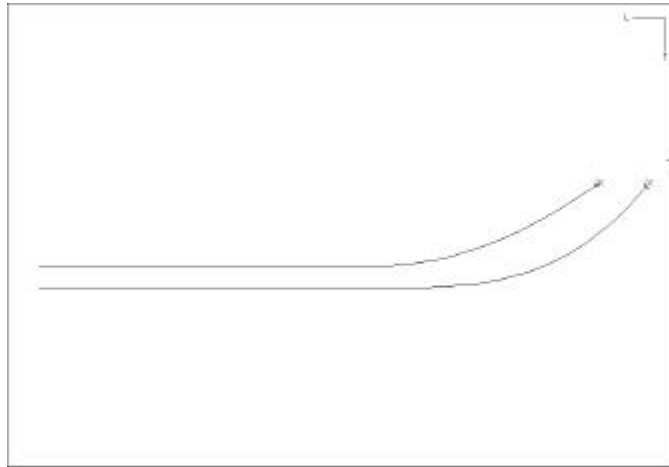

Figure 1-8: Deck Edge and Chine filled out
5. Fill out the *Chine* curve in the same manner. (See Figure 1-8.)